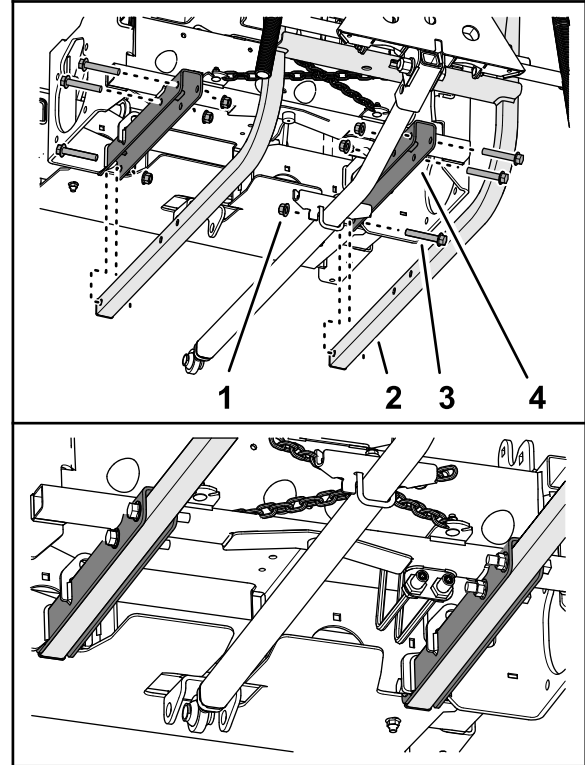

Figure 12
- Lift the back of the rear attachment lift frame to align the holes in the lift-frame tubes with the holes in the channels of the rear frame (Figure 12).